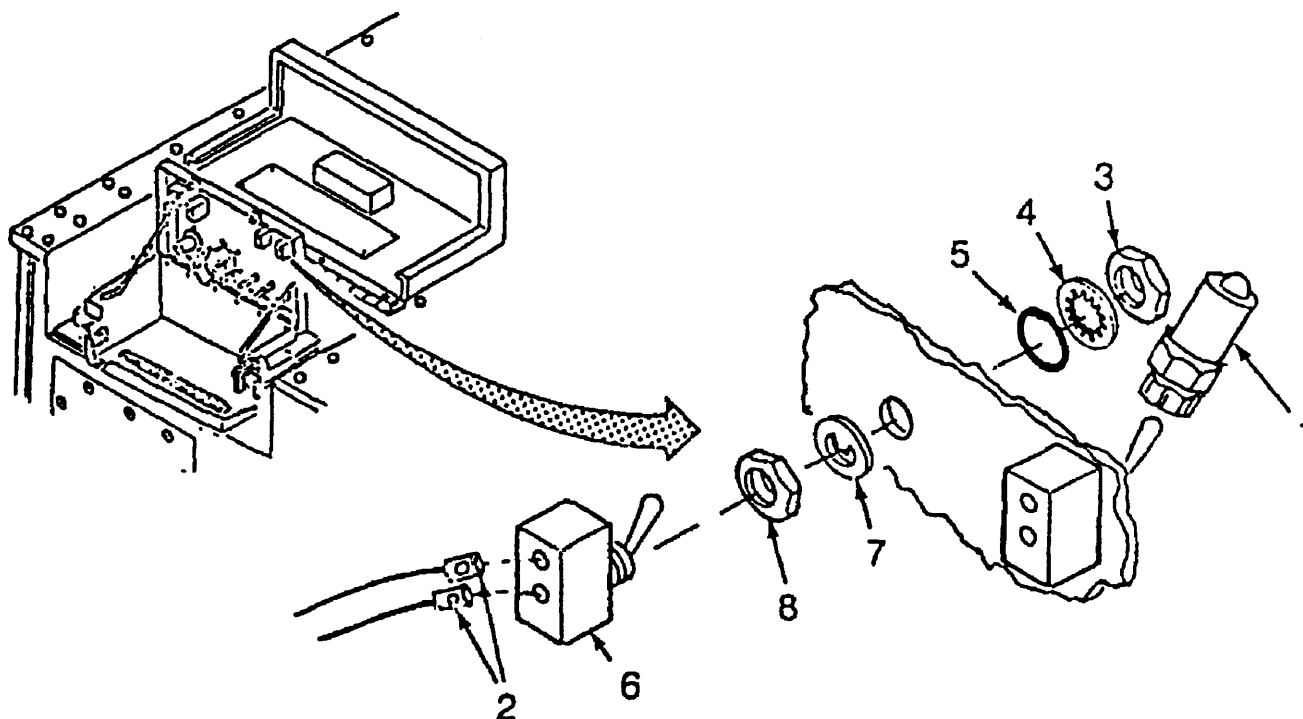

Figure 4-28. Control Box Disassembly Purge and Flame Reset Switches
- (8) Tag and disconnect wires (1) and (2).
- (9) Remove two nuts (3), two lockwashers (4), two screws (5), two preformed packings (6) POWER circuit breaker (7) and preformed packing (8). Discard preformed packing and lockwashers.
- (10) Tag and disconnect two wires (9).
- (11) Remove nut (10), THERMOSTAT circuit breaker (11) and preformed packing (12). Discard preformed packing.
- a. Disassembly - continued (Refer to Figure 4-28)
- (12) Remove extension (1).
- (13) Tag and disconnect two wires (2).
- (14) Remove nut (3), lockwasher (4), preformed packing (5), switch (6), keyed washer (7) and nut (8). Discard preformed packing.